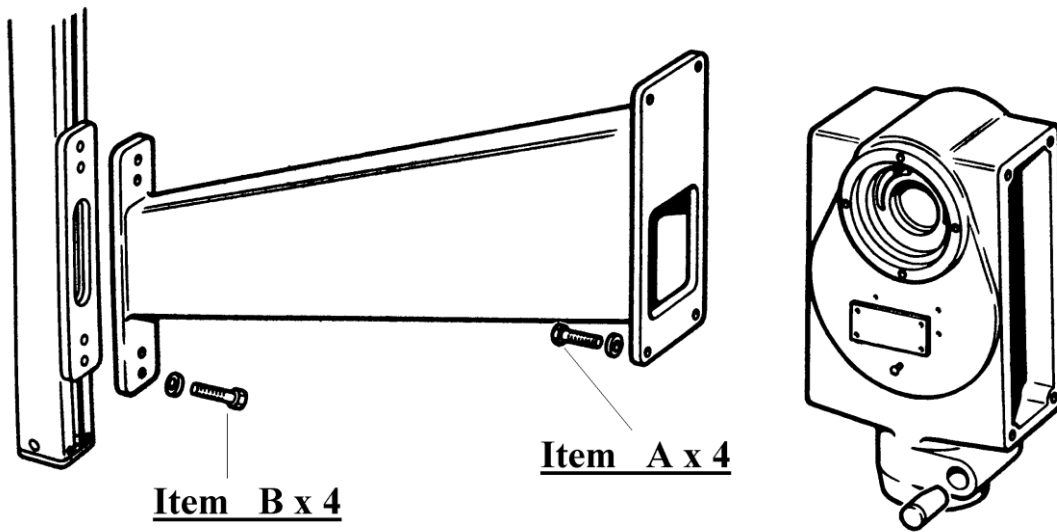

Fig. 1
- a) Boom to housing, 4 off bolts – 68Nm (50lb ft). See Figure 1, Item Ax4.
- b) Boom to mast, 4 off bolts - 54Nm (40lb ft). See Figure 1. Item Bx4.